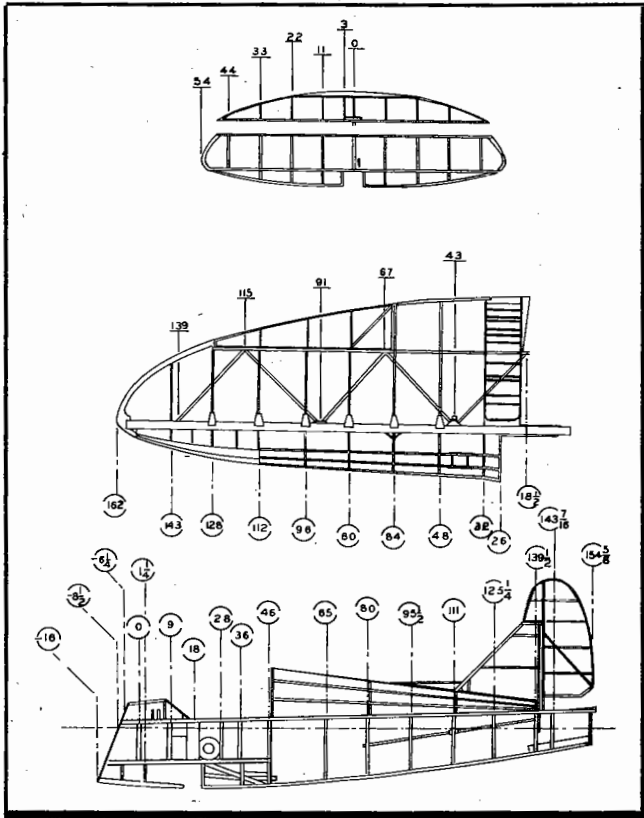

Figure 19—Station and Frames Diagram
c. INSPECTION PLATES.—There are two alighting gear inspection plates for each main gear. They are located on the bottom of the wing at station 43. The fuselage front bottom inspection plate is installed on the bottom of the fuselage just back of station 46. The servo inspection plate is located on the right side of the fuselage below the cabin panel. (See figure 19.)
(1) Walkways have been installed on each wing next to the fuselage. The walking area is surfaced with black grit on fabric cemented to the wing. The wing walks are the only places on the airplane where it is permissible to step. Do not put more than 200 pounds of weight on the trailing edge of the walkway.